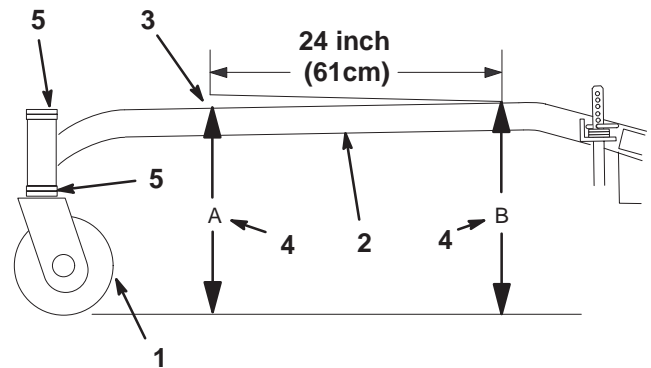

Figure 52
The carrier frame must have a pitch of a 1/4 inch (6 mm) over the length of 24 inches (61 cm) on the carrier frame (Fig. 52).
1. Measure out 24 inches (61cm) on the carrier frame (Fig. 52).
2. Measure carrier frame height at location A (Fig. 52).
3. Measure carrier frame height at location B (Fig. 52).
4. The height at location A must be a 1/4–3/8 inch (6 mm –10 mm) lower than location B (Fig. 52).
5. If the carrier frame is not correct, move caster spacers to make it a 1/4–3/8 inch (6 –10 mm) pitch (Fig. 52). Move spacers from top or bottom to make the correct pitch.